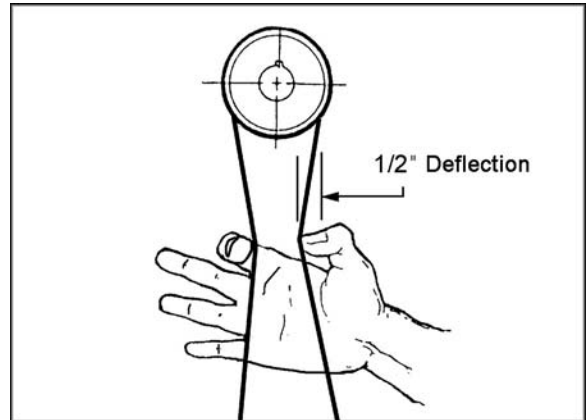

Figure 16
9. The v-belt is properly tensioned when finger pressure between the two pulleys causes approximately 1/2" deflection (Figure 16).